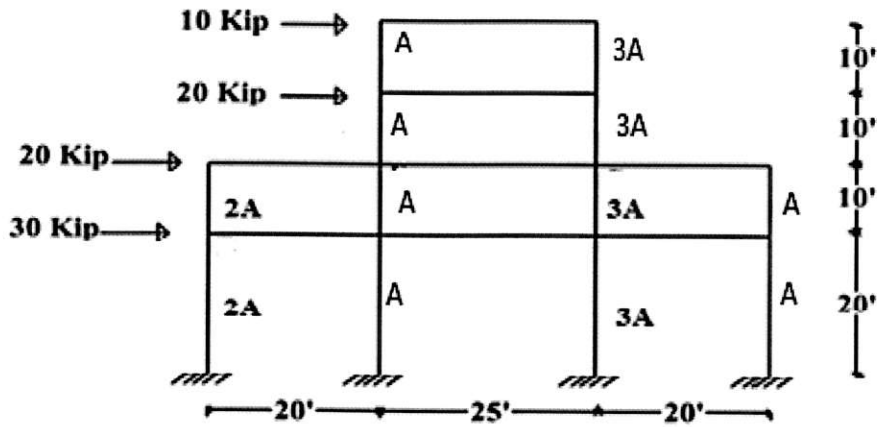

Figure 3
3. Draw Shear force & Bending moment diagram for the frame shown in **Figure 3** using **Cantilever Method**.